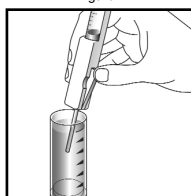

Figure 5
5. Hold the Titrettor with the sample pipe in the sample and press the control bar firmly, but briefly, to pull in a small amount of sample. The contents will turn a **PINK** color (fig. 5).